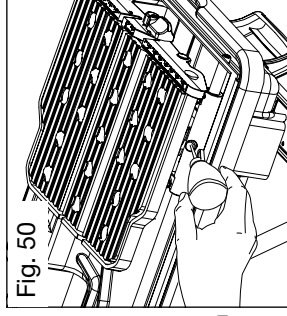

Fig. 50
3. Inject a small amount of lubricant into the bar cylinder under the table (Fig. 50).